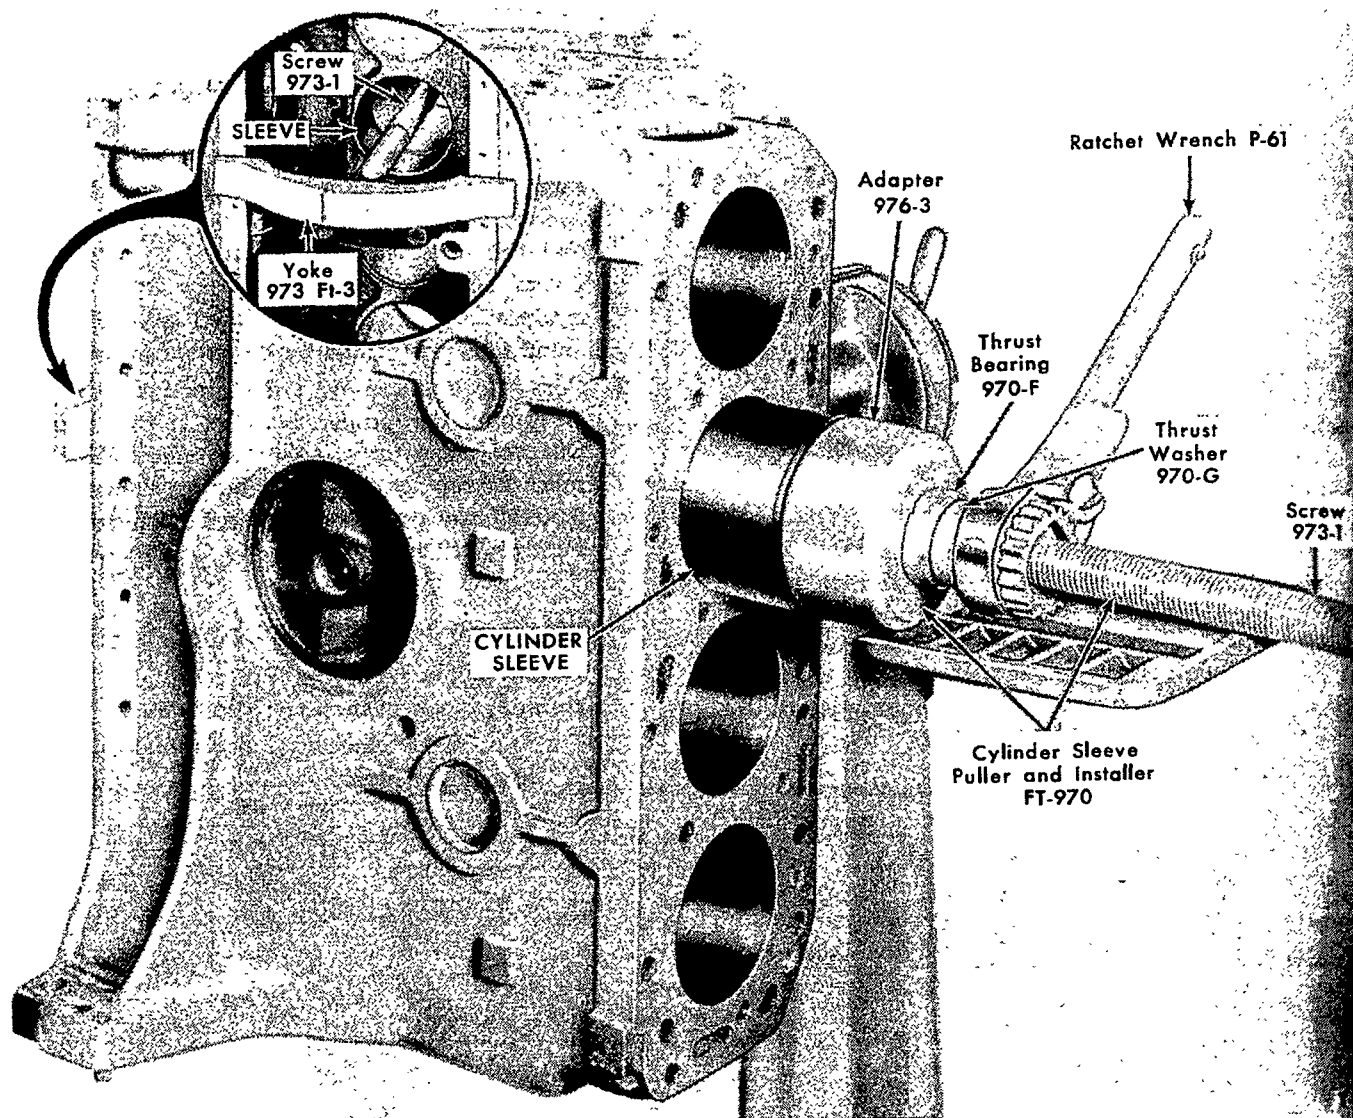

Figure 53—Installing Cylinder Sleeve
1. Clean the cylinder counterbore thoroughly before installing sleeves. Assemble Cylinder Sleeve Installer FT-970 and a new sleeve on the cylinder block as shown in Figure 53. Turn the screw clockwise until the sleeve is bottomed in the counterbore.